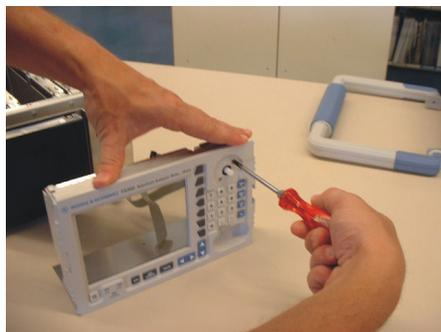

Figure 1-15
8. Undo 2 screws below rotary knob and pull spinwheel out toward rear (see Figure 1-15).